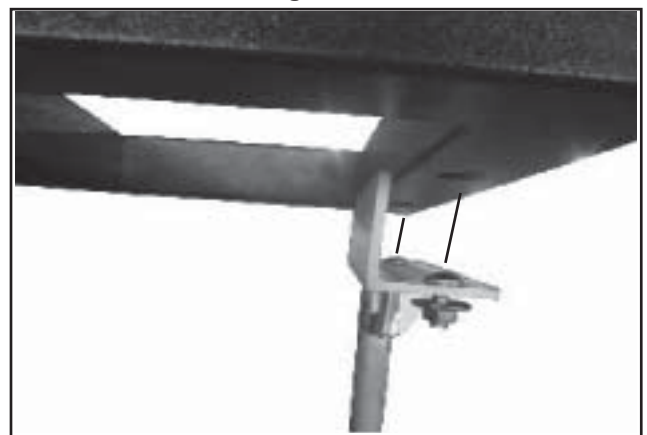

Figure 8
3. Attach the carriage table support arm to the bottom the the sliding table carriage using two 8MM carriage bolts, two 8MM washers and two 8MM hex bolts. The head of the carriage bolts should lock into the bottom of the sliding table carriage. Finger tighten the two 6MM hex bolts only until next step is completed. Figure 8.
Reminder: Tighten the carriage bolts shown in Figure 8 on page nine once the support arm is installed.